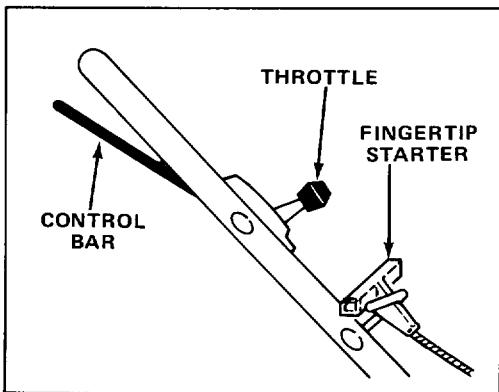
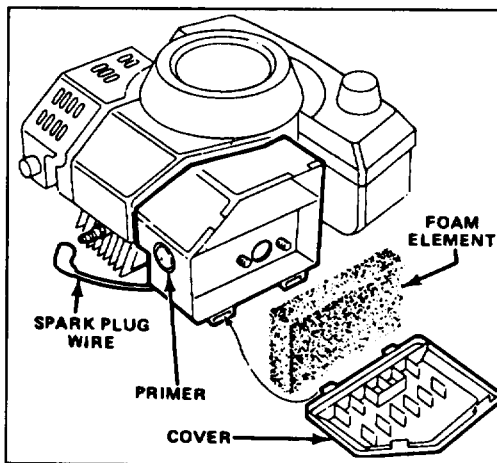

Figure 8
Figure 14
Although the plug is used only for recycling, it is possible to mow without using the plug by closing the discharge tunnel door. However, your recycling will be much more effective if you use the plug. It has an additional kicker (Fig. 8) that helps drive the clippings down into the grass.
1. CONTROLS—Throttle, control bar, and fingertip starter are on upper handle (Fig. 8).
2. Push spark plug wire onto spark plug (Fig. 14).
3. STARTING—Move throttle to CHOKE. Cover hole in center of primer (Fig. 14) with thumb and push once. Lift control bar to handle and hold. Pull fingertip starter out until positive engagement results; then pull vigorously to start the engine. Regulate throttle (Fig. 8) as desired when engine starts.
1. Stop engine and pull wire off spark plug (Fig. 14).
2. Lift tabs at top of air cleaner cover and pivot cover down (Fig. 14). Clean cover thoroughly.
3. If outside of foam element is dirty, remove it from air cleaner body (Fig. 14). Clean thoroughly.
1. Stop engine and wait for engine to cool. Pull wire off spark plug (Fig. 14).
1. Stop engine. Wait for all moving parts to stop. Pull wire off spark plug (Fig. 14).